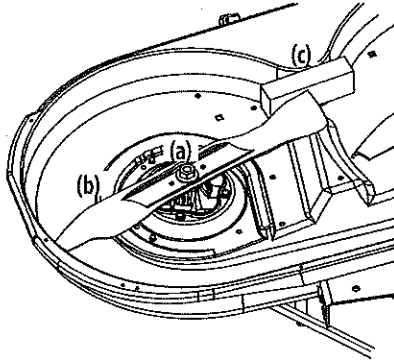

Figure 49
2. Use a 15/16" wrench to hold the hex nut on top of the spindle assembly when loosening the hex nut (a) securing the blade (b). A block of wood (c) may be placed between the deck housing and the cutting edge of the blade (b) to help in breaking loose the hex nut (a) securing the blade. See Figure 49.